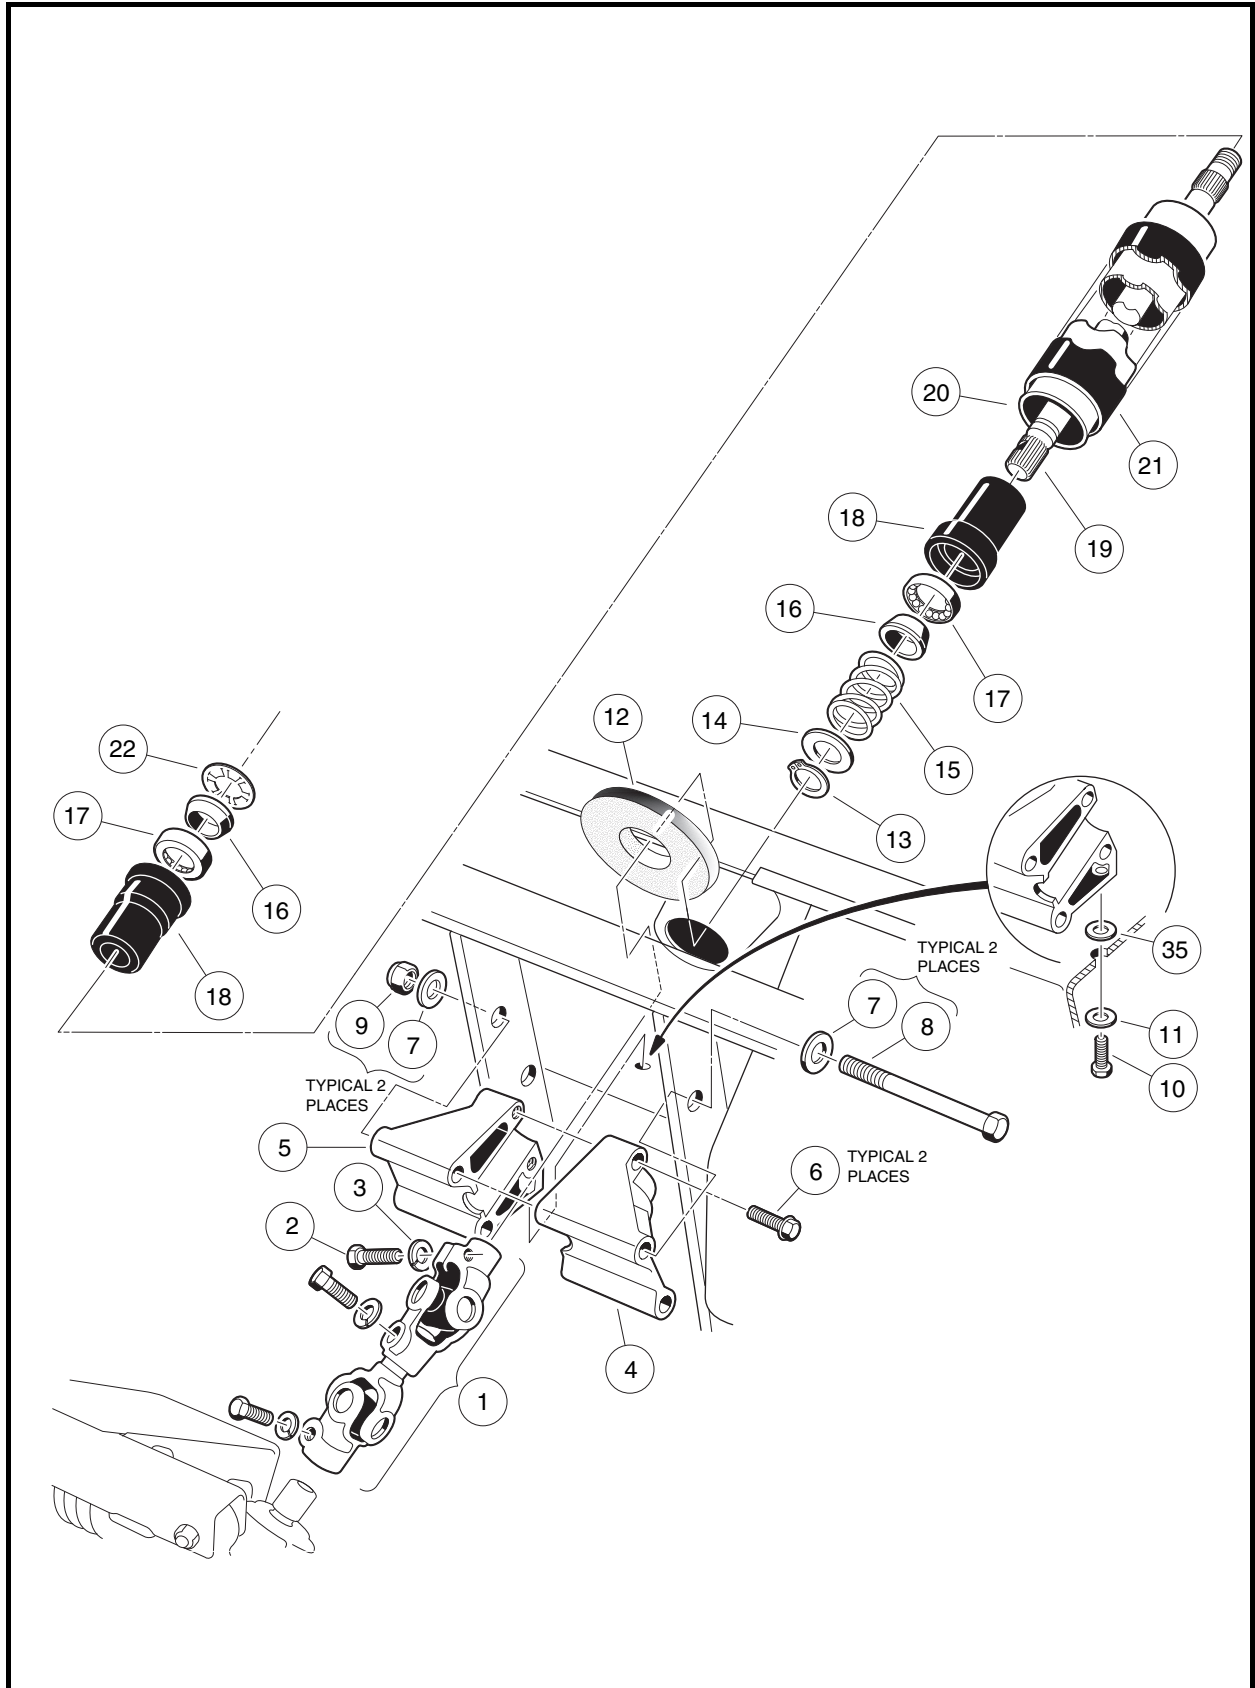

Figure 7-3 Steering Column
5. Remove the upper bolt (2) and lock washer (3) from the universal joint (**Figure 7-3, Page 7-3**).
6. Remove the nuts (9), bolts (8 and 10), and washers (7 and 11) from the steering column mount (4 and 5) (**Figure 7-3, Page 7-3**).
1. Remove bolts (6) and mounts (4 and 5) from steering column. Remove boot (12) (**Figure 7-3, Page 7-3**).
2. While supporting steering column (20) on a workbench, remove snap ring (13) from shaft. **See following NOTE.**
4. Insert the shaft (19) from the bottom of the steering tube (20) (**Figure 7-3, Page 7-3**).
1. Install boot (12). Reinstall mount (4 and 5) onto the end of the steering column. Tighten bolts (6) to 20 ft-lb (27 N·m) (**Figure 7-3, Page 7-3**).
3. Position the steering column assembly in the vehicle while inserting the steering column shaft into the upper universal joint (1). The flat portion of the steering shaft spline (19) must be aligned with the bolt hole in the universal joint (1) before sliding the spline into the universal joint. While holding the steering column in place, attach it to the frame using bolts (8), washers (7), and nuts (9) (**Figure 7-3, Page 7-3**). Thread the nuts onto the bolts but do not tighten them.
4. Install wide washer (35), washer (11) and screw (10). Tighten to 20 ft-lb (27 N·m) (**Figure 7-3, Page 7-3**).
5. Install the bolt (2) and lock washer (3) on the upper universal joint and finger-tighten.
6. Tighten the two nuts (9) and bolts (8) to 18 ft-lb (24.4 N·m) (**Figure 7-3, Page 7-3**).
7. Tighten the bolt (2) on the upper universal joint to 15 ft-lb (20 N·m) (**Figure 7-3, Page 7-3**).
8. Check the other two bolts of the universal joint (1) to ensure that they are properly tightened to 15 ft-lb (20 N·m) (**Figure 7-3, Page 7-3**).
4. Remove the bolt (2) and flat washer (3) on the upper universal joint, then remove the rack assembly and universal joint from the vehicle (**Figure 7-3, Page 7-3**).